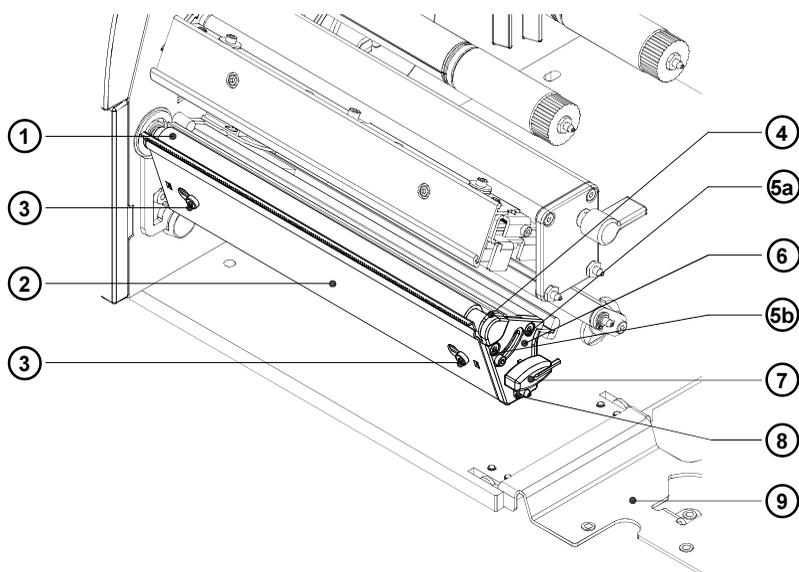

Fig. D-4 Changing Print Roller (I)
1. Open the printhead and swing down the plate (9) as shown in figure D-4. Remove the media from the printer.
2. Take the Allen key (7), loosen the screws (3) and remove the tear-off plate (2).
3. Remove two screws (5a, 5b) using the Allen key (7). Remove the pin (8) using a 7mm hex wrench.
4. Remove the plate (6) and the printhead support (4) from the axle of the print roller (1).